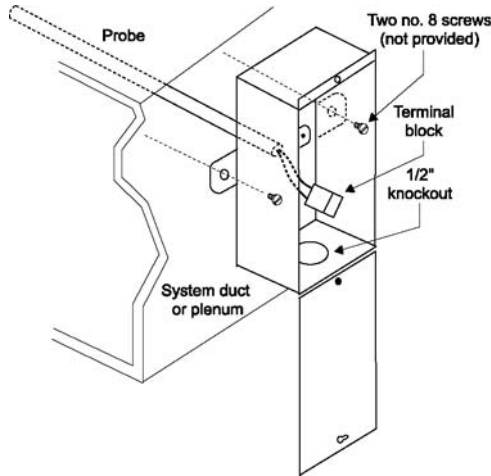

Figure 3. Installing the Duct Temperature Sensor
4. Fasten the sensor to the duct with the sheet metal screws. See Figure 3.